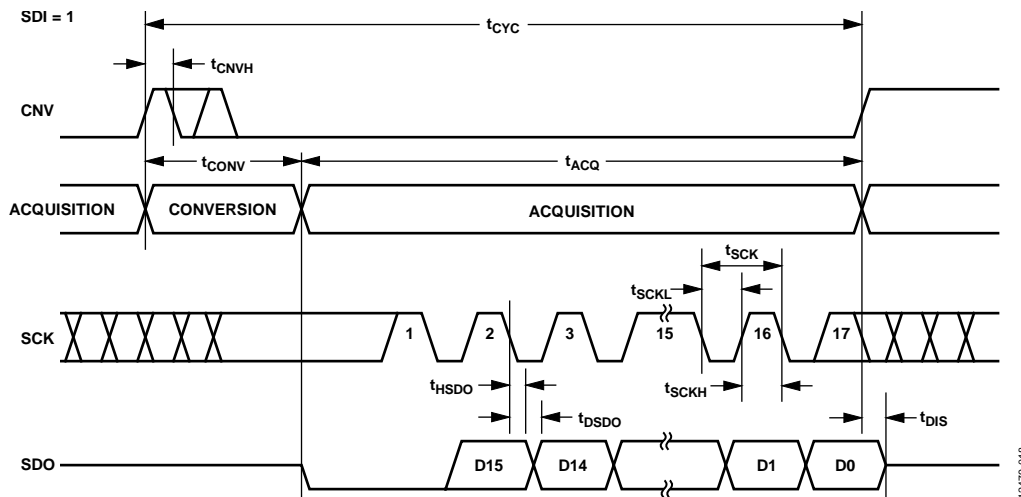
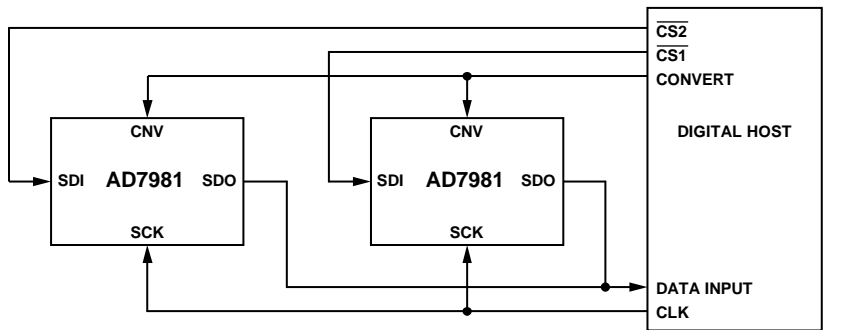
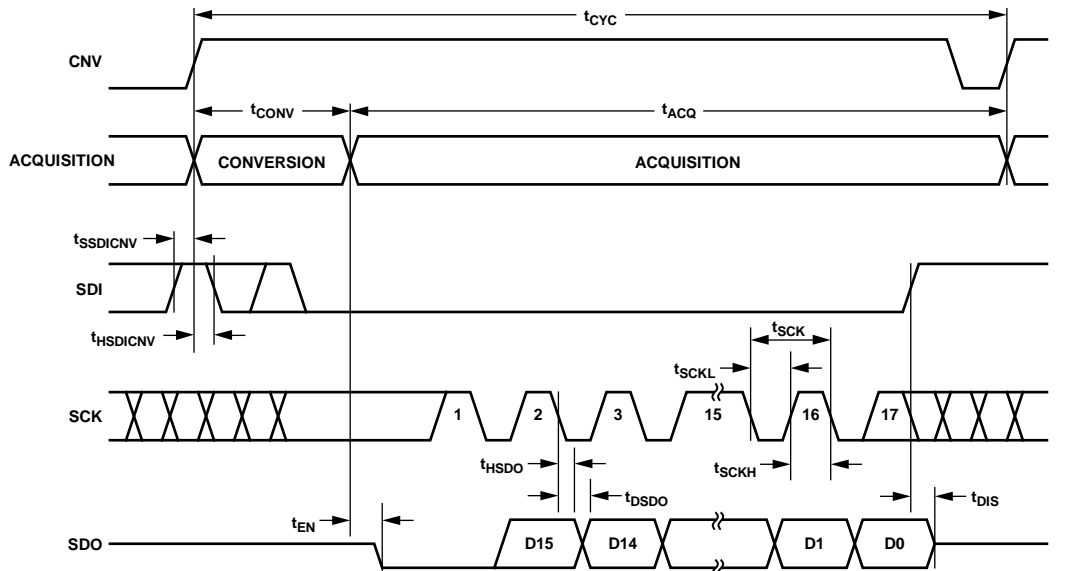
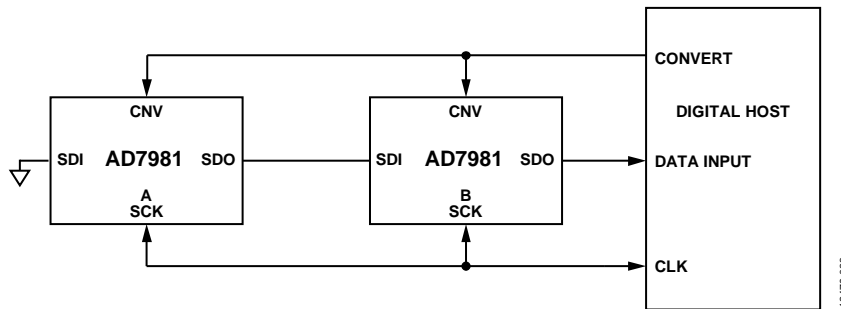

Figure 44. 3-Wire $\overline{\text{CS}}$ Mode with Busy Indicator Serial Interface Timing (SDI High)
Figure 45. 4-Wire \overline{CS} Mode Without Busy Indicator Connection Diagram
Figure 48. 4-Wire $\overline{\text{CS}}$ Mode with Busy Indicator Serial Interface Timing
Figure 49. Chain Mode Without Busy Indicator Connection Diagram
- In $\overline{\text{CS}}$ mode if CNV or SDI is low when the ADC conversion ends (see Figure 45 and Figure 49, respectively).
The 3-wire $\overline{\text{CS}}$ mode with a busy indicator is typically used when a single AD7981 is connected to an SPI-compatible digital host having an interrupt input. The connection diagram is shown in Figure 44, and the corresponding timing is given in Figure 45.
The connection diagram is shown in Figure 48, and the corresponding timing is given in Figure 49.